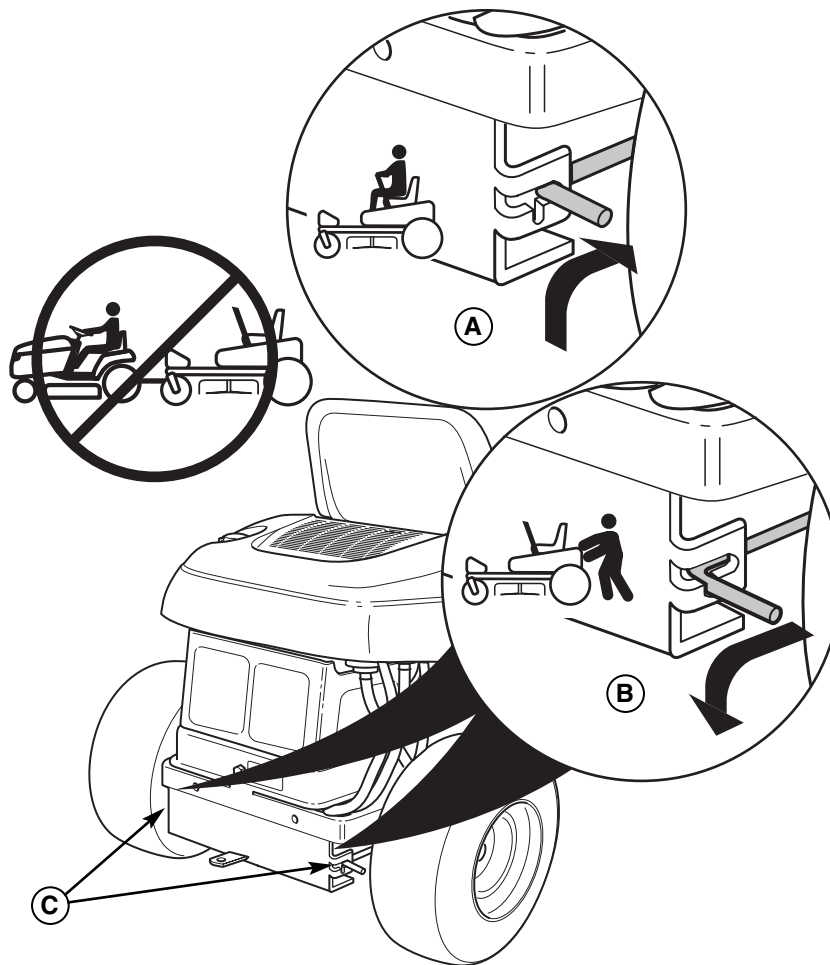

Figure 1. Pushing the rider
3. Locate the transmission release levers (C, Figure 1) at the rear of the unit.
4. Pull **both** levers back and down to release the transmissions (position B, Figure 1).
6. After moving the rider, set the ground speed control levers to START/PARK, engage the parking brake, and push **both** transmission release levers forward to re-engage the transmissions (position A, Figure 1).